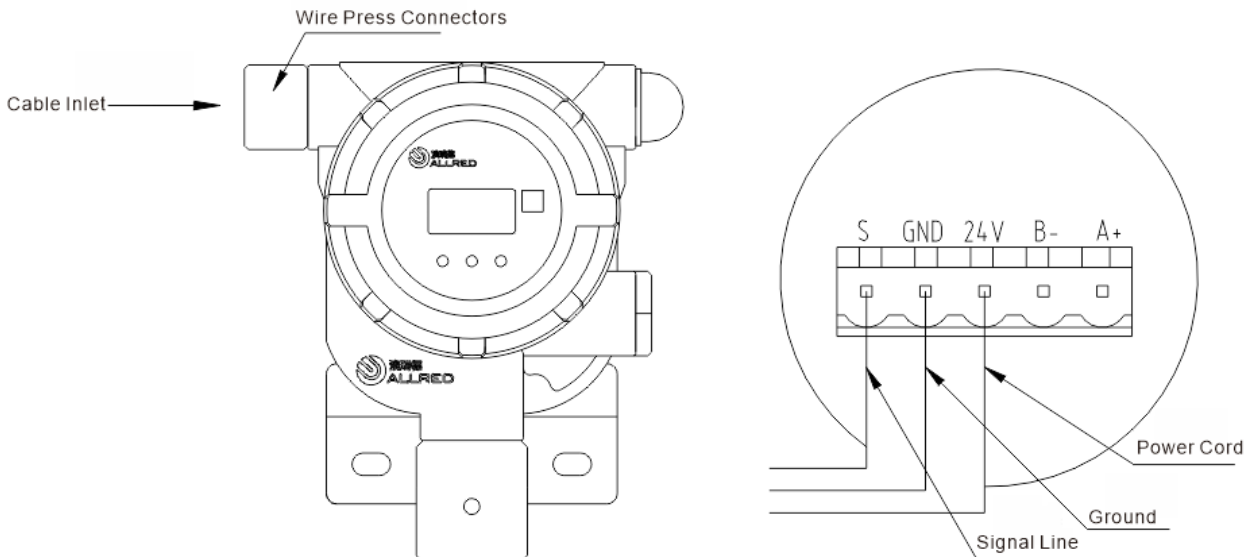

FIG 4.2
- b. Connect the three wires of the three-core cable to the corresponding positions of the detector terminal block, as shown in Figure 4.2 below: